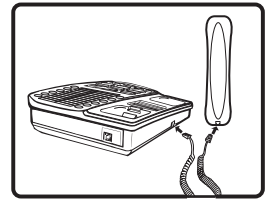

Figure 7
5. Plug one end of the coiled handset cord into the bottom of the handset. Plug the other end of the handset into the modular jack marked **HANDSET** located on the left side of the phone. Place receiver in the cradle. See Figure 7.